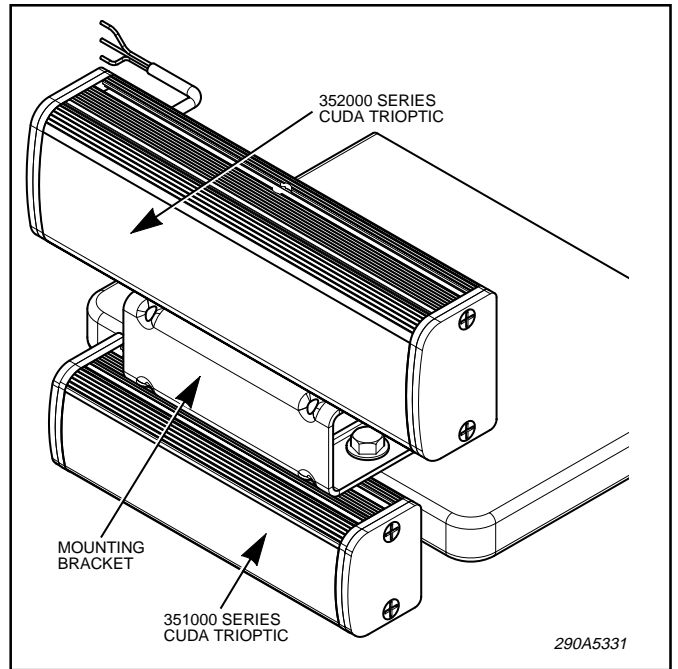

Figure 1.
1. Figure 1 shows a typical mounting configuration using Cuda TriOptic 351000 Series and 352000 Series LED Light Heads (not included).